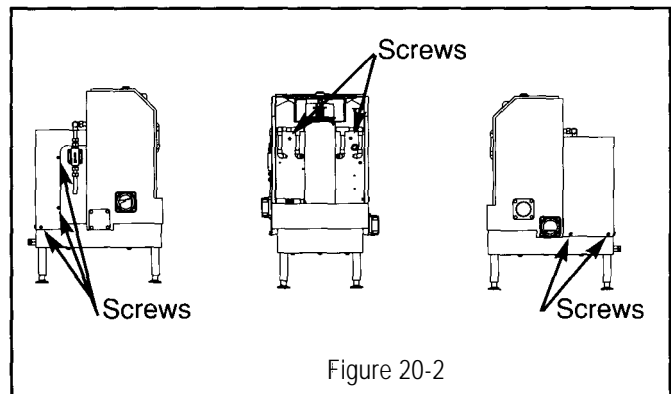

Figure 20-2
3. Remove rear panel by removing the screws securing it in place (see figure 20-2).